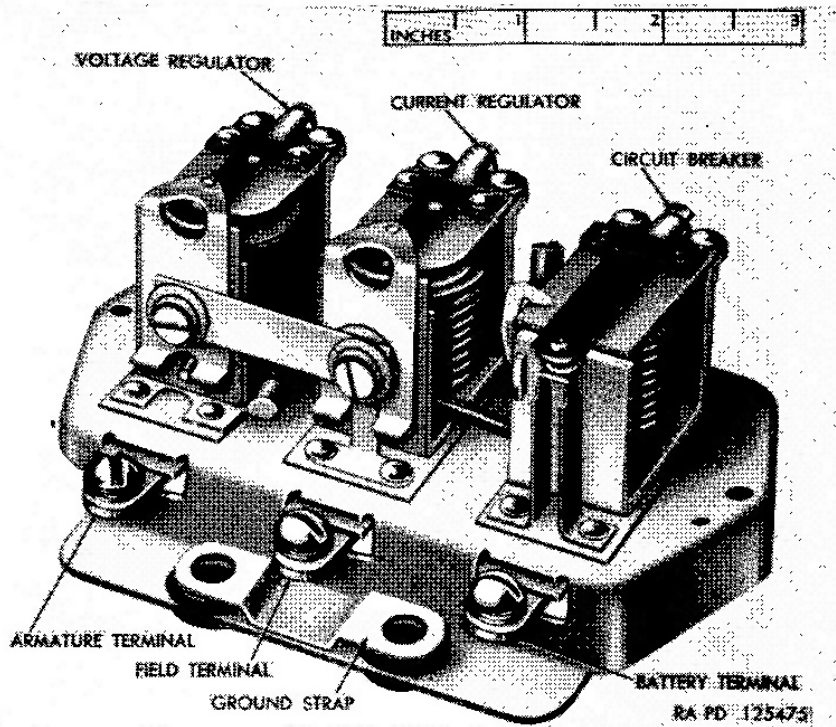
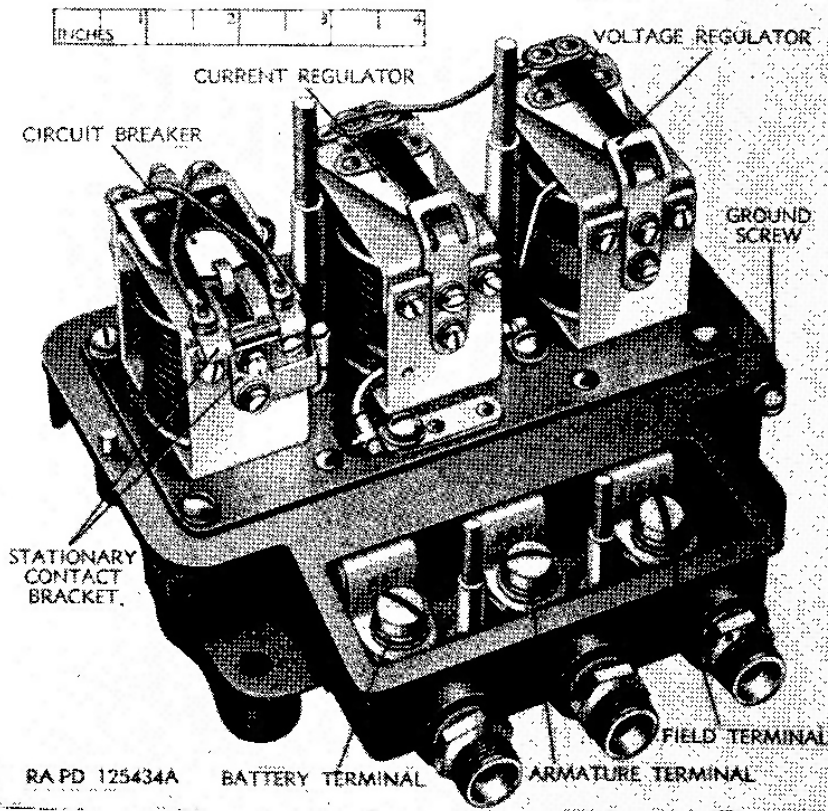

Figure 88. Group 3 regulator with cover removed.
Figure 89. Group 4 regulator with cover removed.
brush generators. Groups 3 (fig. 88) and 4 (fig. 89) have three units; these are: the circuit breaker, voltage regulator, and current regulator. These last two groups are used with shunt type generators.
- (a) The circuit breaker unit consists of an electromagnet and a set of contacts. One of the contacts is mounted on a stationary bridge while the other is mounted on a movable armature which is controlled by the electromagnet. The movable contact is usually mounted on a spring arm so that, as the contacts open and close, a slight wiping action is produced. The heavy duty regulators in group 4 (fig. 89) have two of the above sets of contacts. These two sets operate simultaneously and in parallel and are used to reduce voltage loss.
- (2) *Current-regulator unit.* The same limits and procedure as described for voltage regulator ((1) above) applies to current-regulator unit.
c. *Measure Contact Point Gap on Circuit Breaker Unit.* Measure gap between both sets of contacts (fig. 127). Do not set this gap to less than 0.025 inch (0.080 inch for VAD type) but it may be set larger than this after adjusting contact opening amperage. Bend stationary contact brackets (fig. 89) to adjust gap and align contacts so contact is made and broken on both sets of contacts at the same time.